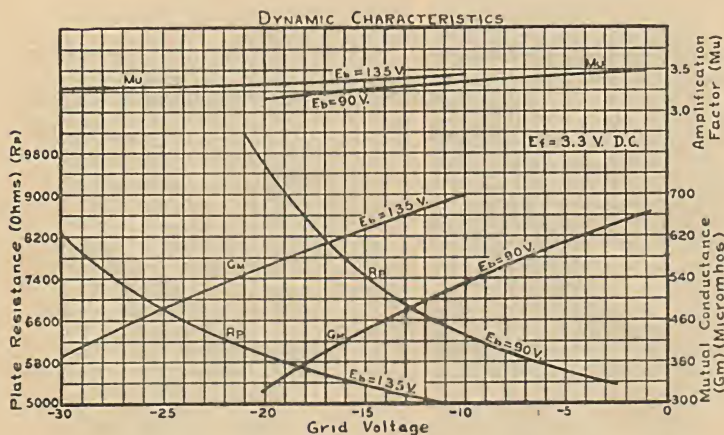

Fig. 9
**Dynamic Characteristics**—Fig. 9 shows the effect of grid voltage upon the amplification factor, mutual conductance and plate resistance.